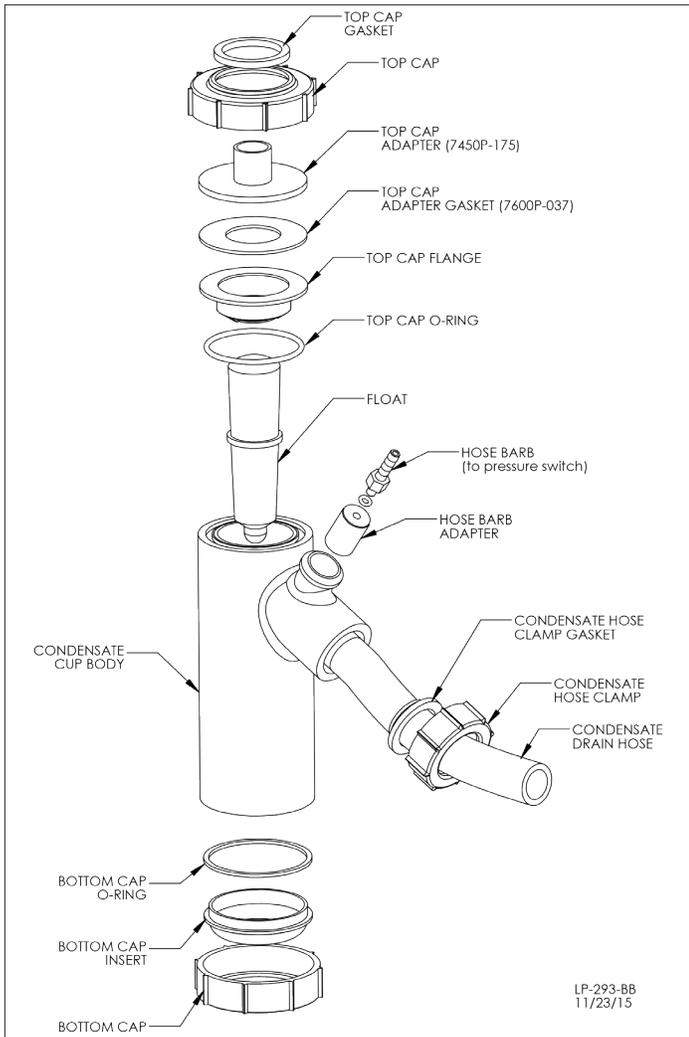

Figure 32 - Condensate Detail
- 5. When the condensate trap is sufficiently clean, reinstall the bottom cap on the trap. **NOTE:** Ensure all parts shown in Figure 32, Condensate Detail, are installed with the condensate trap. If any parts are missing, DO NOT reinstall the trap. Replace the entire assembly.